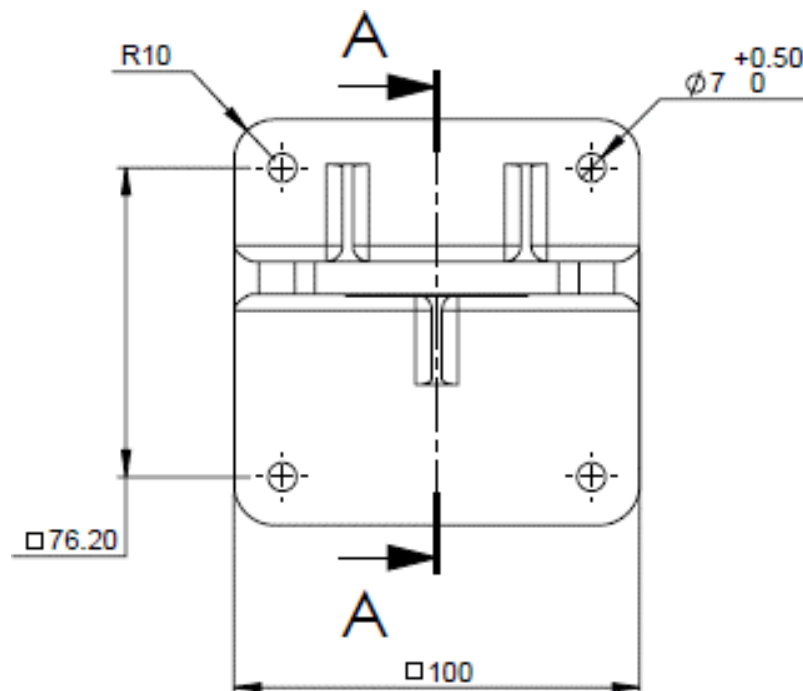

Figure 11 : Tilt Mount Base - Plate View
- a) Mount the tilt mount base (Figure 11) to a solid structure using four suitable fixings through the four 7mm (0.28") diameter holes. Four captive screws with spring washers are provided in the tilt mount.